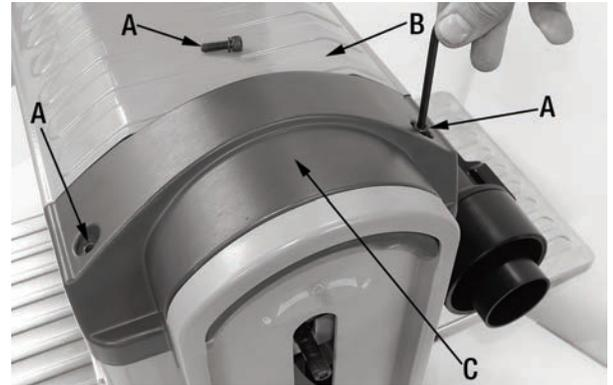

FIGURE 19
- 5) Remove the two cap screws (A) Fig.19 located in the top of the right cover (C) using a 5 mm hex. key.
- 6) Remove the centre panel (B) Fig.19 and the right cover (C).